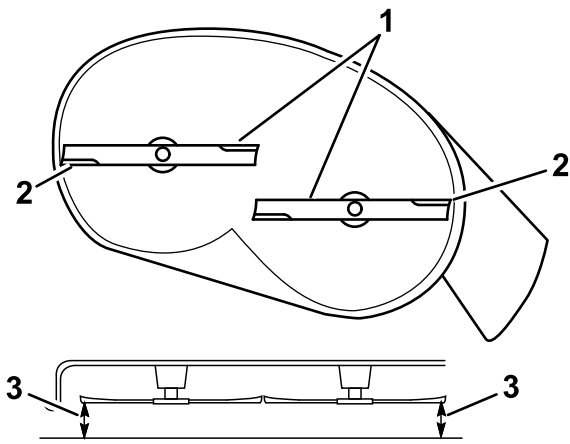

Figure 59
- Measure between the outside cutting edges and the flat surface (Figure 59).